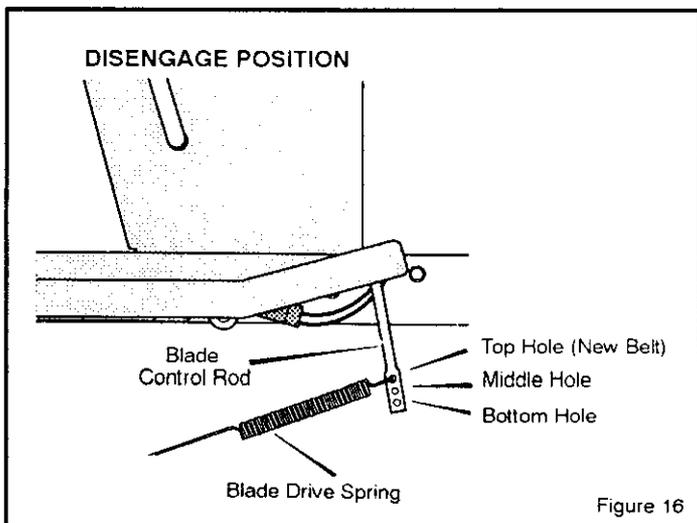

Figure 16
5. Disconnect the blade drive spring from the blade control rod. Move the blade drive spring to the *middle hole* (Figure 16). This will increase the tension on the mower drive belt.
13. If you replace the **mower drive belt**, move the **blade drive spring** to the *top hole* (Figure 16).